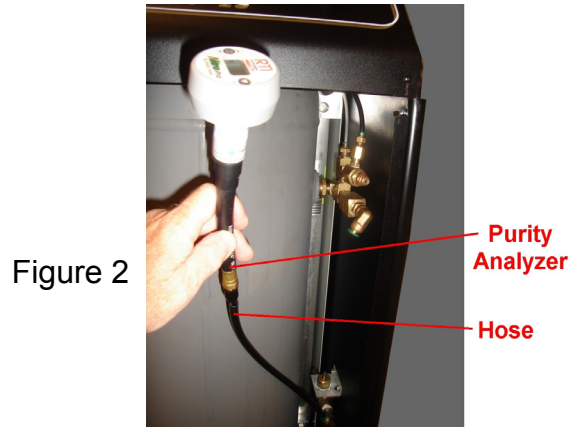

Figure 2
- 4) Hold the RTI Nitrogen Analyzer as shown in Figure 2 and read the purity level of Nitrogen being generated.